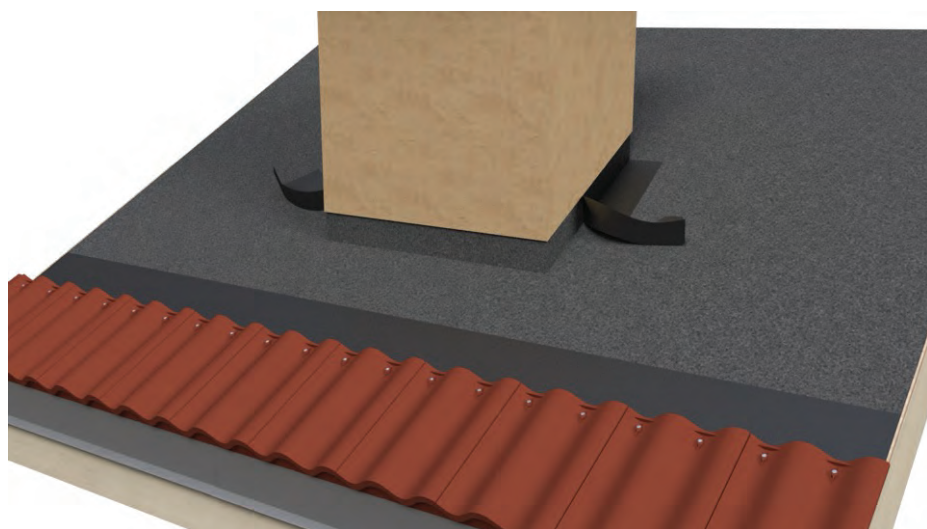

Figure 4.4.7
- 1 Cut and Fit Lead/Flexible Flashing at the base of the chimney:** Measure the chimney base perimeter. Cut flashing to size, ensuring it extends at least 4" up the chimney and at least 6" onto the roof. Cut the flashing into sections to fit each side of the chimney as shown in *Figure 4.4.7*.